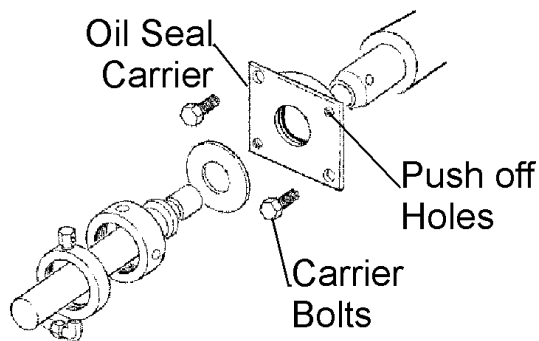

Figure 57 Removal of Oil Seal
4. Remove plungers and oil seal carriers. Use 1/4-20 bolts to push off carrier, if needed See Figure 57.